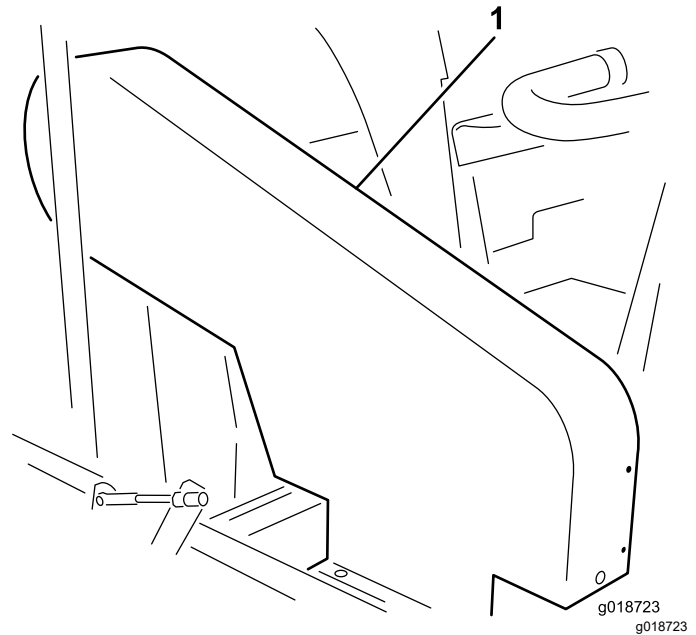

Figure 19
Note: It is not necessary to remove the upper belt guard (Figure 19) to check the belt tension. If you remove the belt guard, remove the 4 bolts, washers, and nuts securing the guard to the frame. Do not operate the machine without the guards in place.
Check the tension by pressing the belt at the midspan of the impeller and clutch pulleys with 18 to 22 N (4 to 5 lb) of force. The belt should deflect 1.3 cm (1/2 inch). If the deflection is incorrect, refer to Adjusting the Impeller Drive Belt \(page 24\). If the deflection is correct, continue normal operation (Figure 19).
Check the tension by pressing the belt at midspan of the jackshaft and clutch pulleys with 18 to 22 N (4 to 5 lb) of force. The belt should deflect 6 mm (1/4 inch). If the deflection is incorrect, refer to Adjusting the Jackshaft Belt \(page 25\). If the deflection is correct, continue normal operation (Figure 19).
- Remove the 4 bolts, washers and nuts securing the upper shroud to the frame (Figure 19).